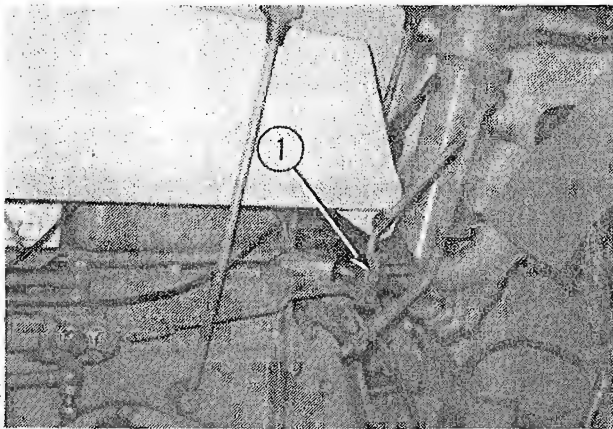

FIG. 4
(5) Hydraulic lift lever.(1, Fig.4)